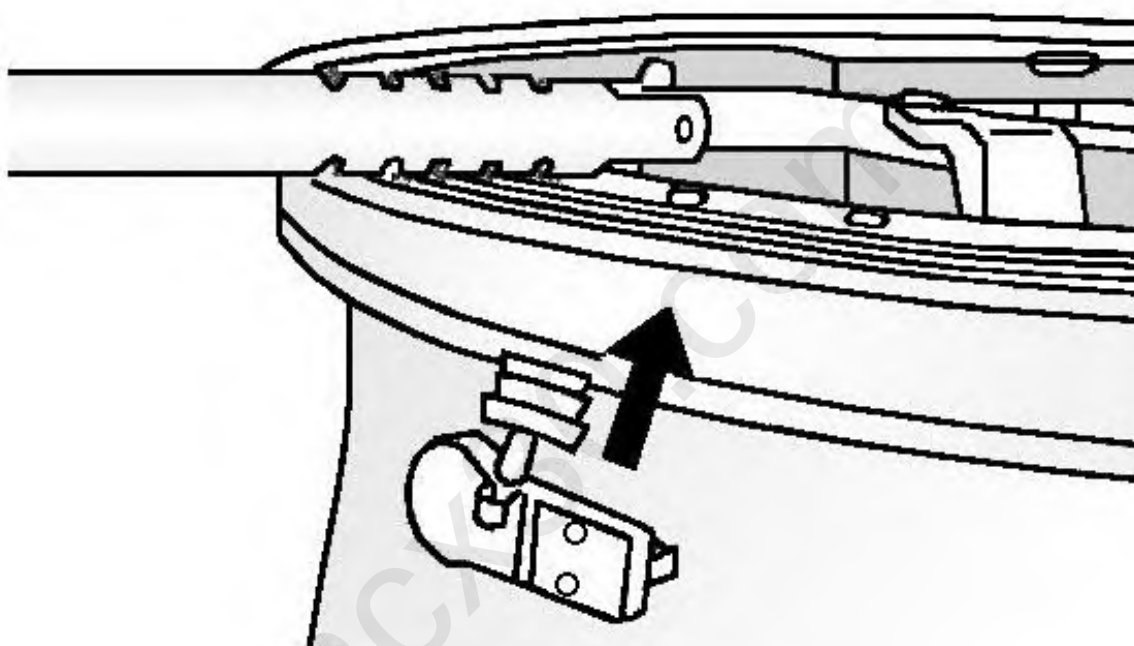

Fig. 3: Installation Of Snap-In Sensor/Valve Assembly.
3. Using a tire valve stem mounting tool, pull the valve stem through in a direction parallel to the valve hole on the rim. See Fig. 3.